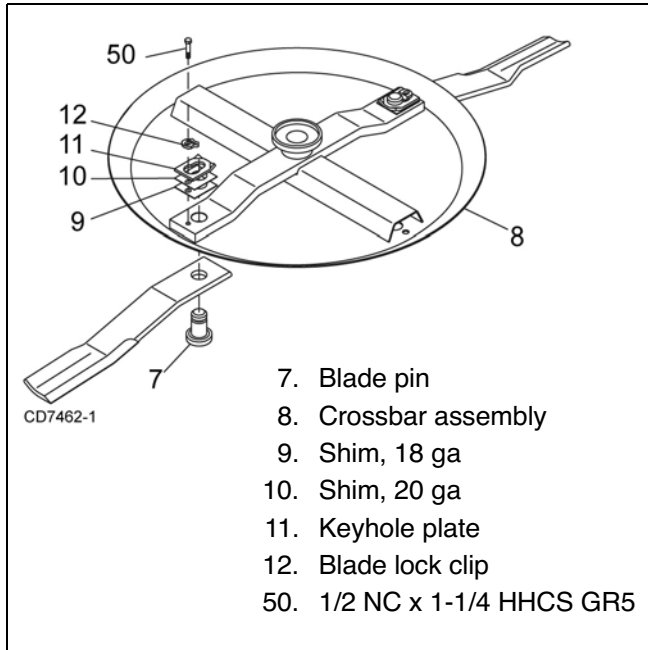

Figure 12. Blade Removal
2. Remove blades from crossbar as shown in Figure 12.